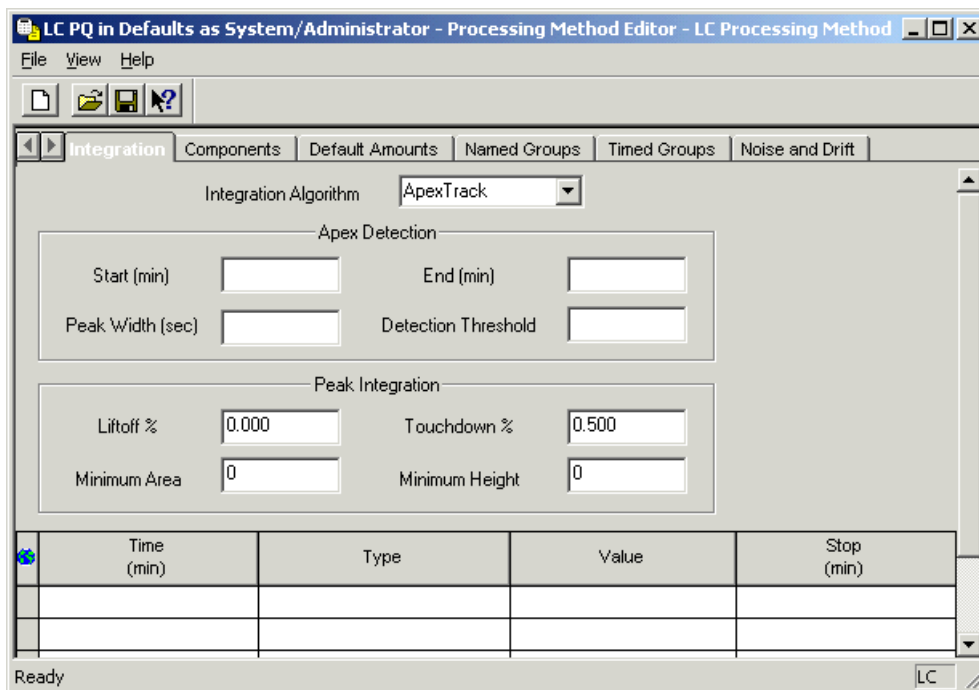

Figure C-9 ApexTrack Parameters in the Integration Tab
2. Select **ApexTrack** from the Integration Algorithm list. The appropriate parameters appear in the Integration tab (Figure C-9).
1. Open the project, then double-click the processing method to open it. The Integration tab of the selected processing method appears (Figure C-9).